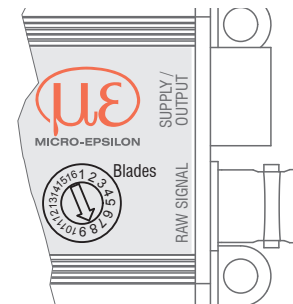

Fig. 22 Rotary switch for the number of blades
- ➡ Set the number of blades of the turbo charger using the switch `Blades` on the controller, see Fig. 22.
The settings for a turbo charger with 8 blades are shown, see Fig. 22.
- ➡ Set the number of blades of the turbo charger with the switch `Blades` on the controller to value 1, see Fig. 22.